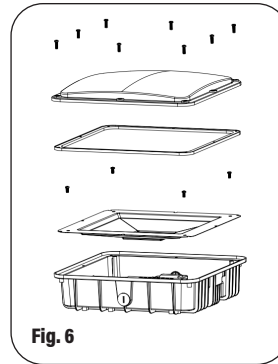

Fig. 6
Step 1: Using an appropriate screw driver, remove the screws from the canopy housing and reflector. Remove the PC cover and reflector as shown in Fig. 6.